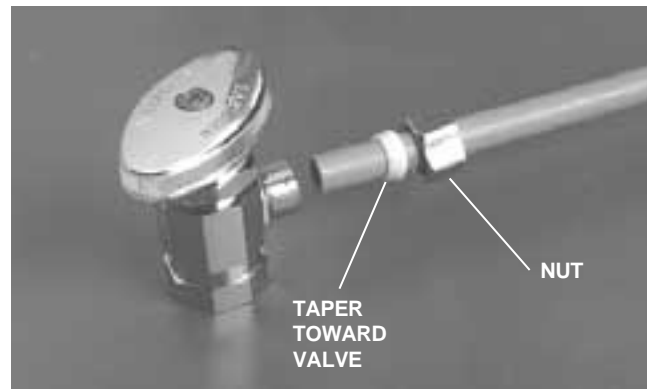

FIGURE 28
2. Remove the nuts from the manual shutoff valves, then discard the brass compression sleeves. Slide the nut and a new plastic compression sleeve onto both gray tubings (see *Figure 28*). Be sure the tapered end of the compression sleeve is pointed toward the manual shutoff valve. Firmly tighten each nut.